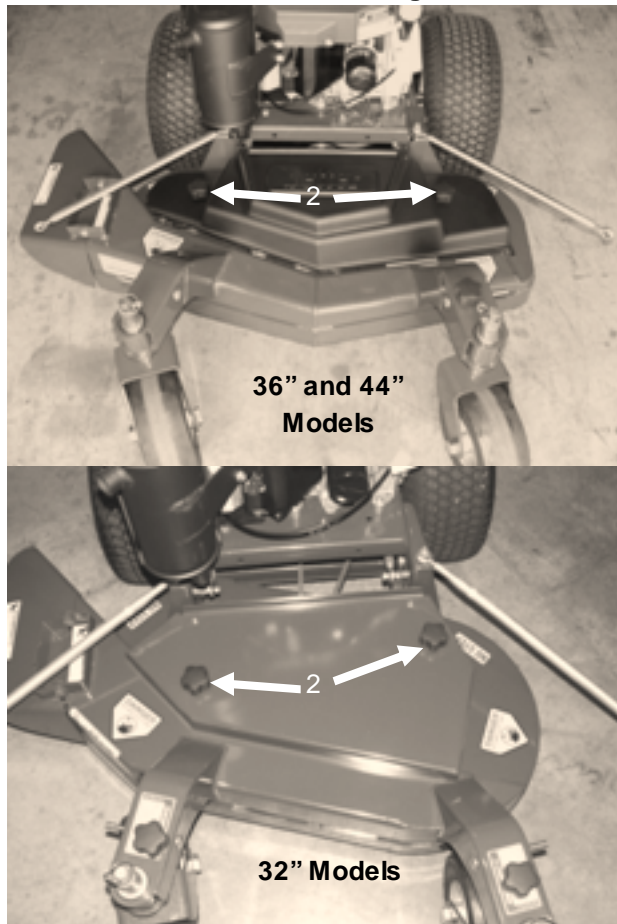

Figure 14
1. Remove caster arm reinforcement strut knobs and rotate struts to the side **Figure 14**.